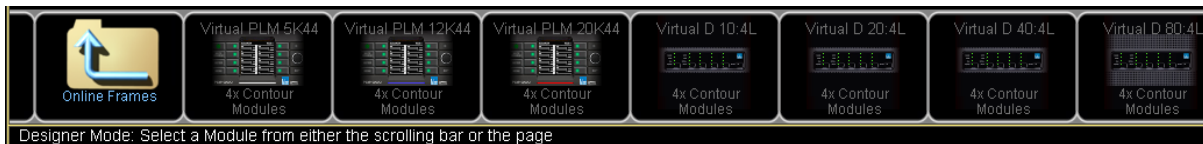

Figure 4-9: Module Scroll bar - Virtual Frames
Figure 4-9 shows the Module scroll bar displaying Virtual Frames for Lake-enable devices, after accessing the Virtual Frame folder.
1. Tap the Module button to display the Module scroll bar as shown in Figure 4-9